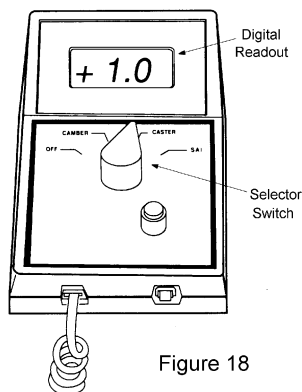

Figure 18
- 3) Set the selector to CASTER and press the switch to ON. Press the Zero Button. (See Fig. 18)
- 6) Read Caster on the Digital Readout Scale (A positive 1.0 is indicated in Fig.18). The numeric reading will be preceded by a + or - to indicate positive or negative Caster.